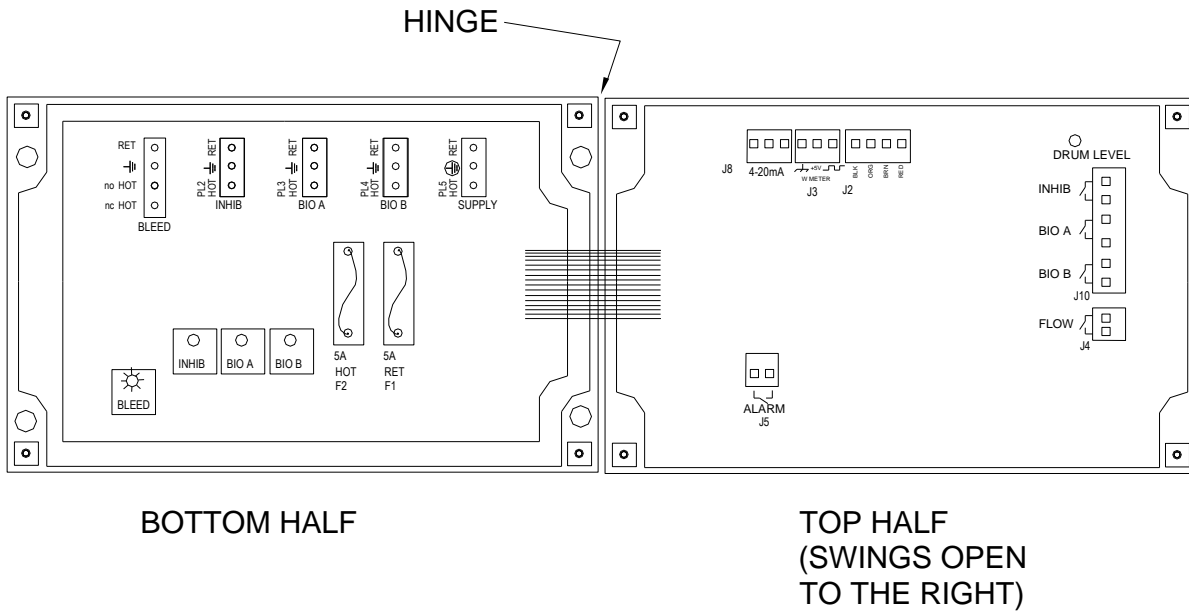

Fig. 2
Loosen the four (4) screws on the front of the controller and carefully swing the top of the case to the right (Fig. 2).